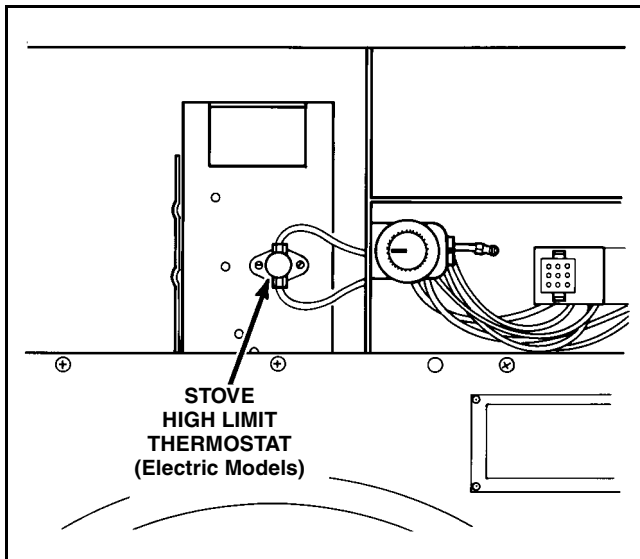

Figure 22
Electric Models (Figure 22)
NOTE: Control panel need not be removed in order to replace thermostat. Control panel removed for illustration in Figure 22.
- Disconnect two wires from thermostat. Refer to Figure 22.